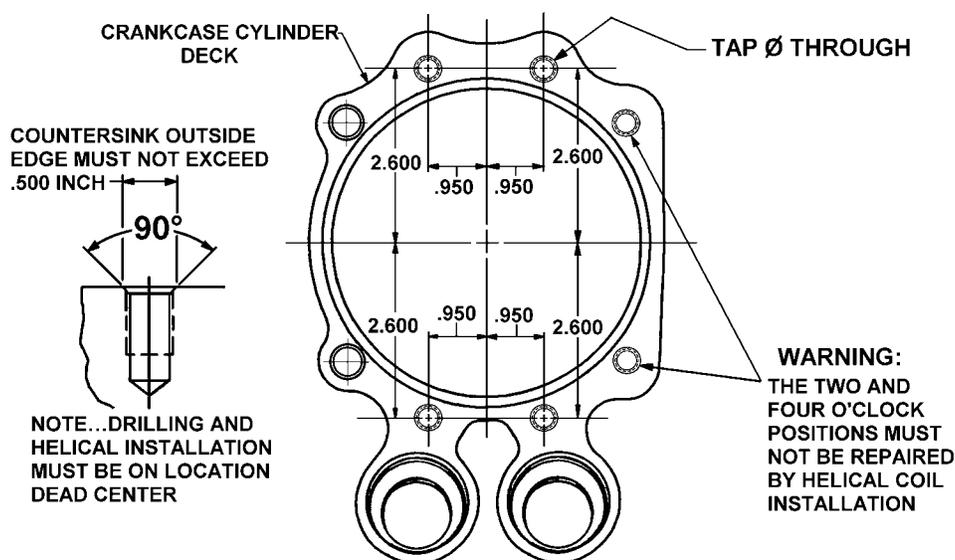

FIGURE 17-6. CRANKCASE CYLINDER DECK HELICAL COIL INSTALLATION
2. Installation of crankcase cylinder deck stud hole helical coils must be accomplished in accordance with the specifications in Figure 17-6 and the instructions in Section 5-21, "Helical Coil Insert Replacement."